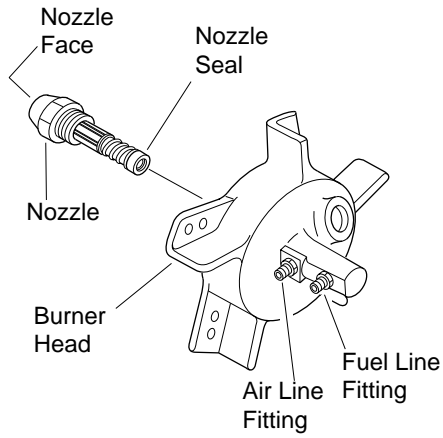

Figure 26 - Removing Nozzle, 100/150 Models
6. Remove three (3) screws using 5/16" nut-driver and remove burner head from combustion chamber.
8. Carefully remove nozzle from burner head by using 5/8" socket wrench (see Figure 26).